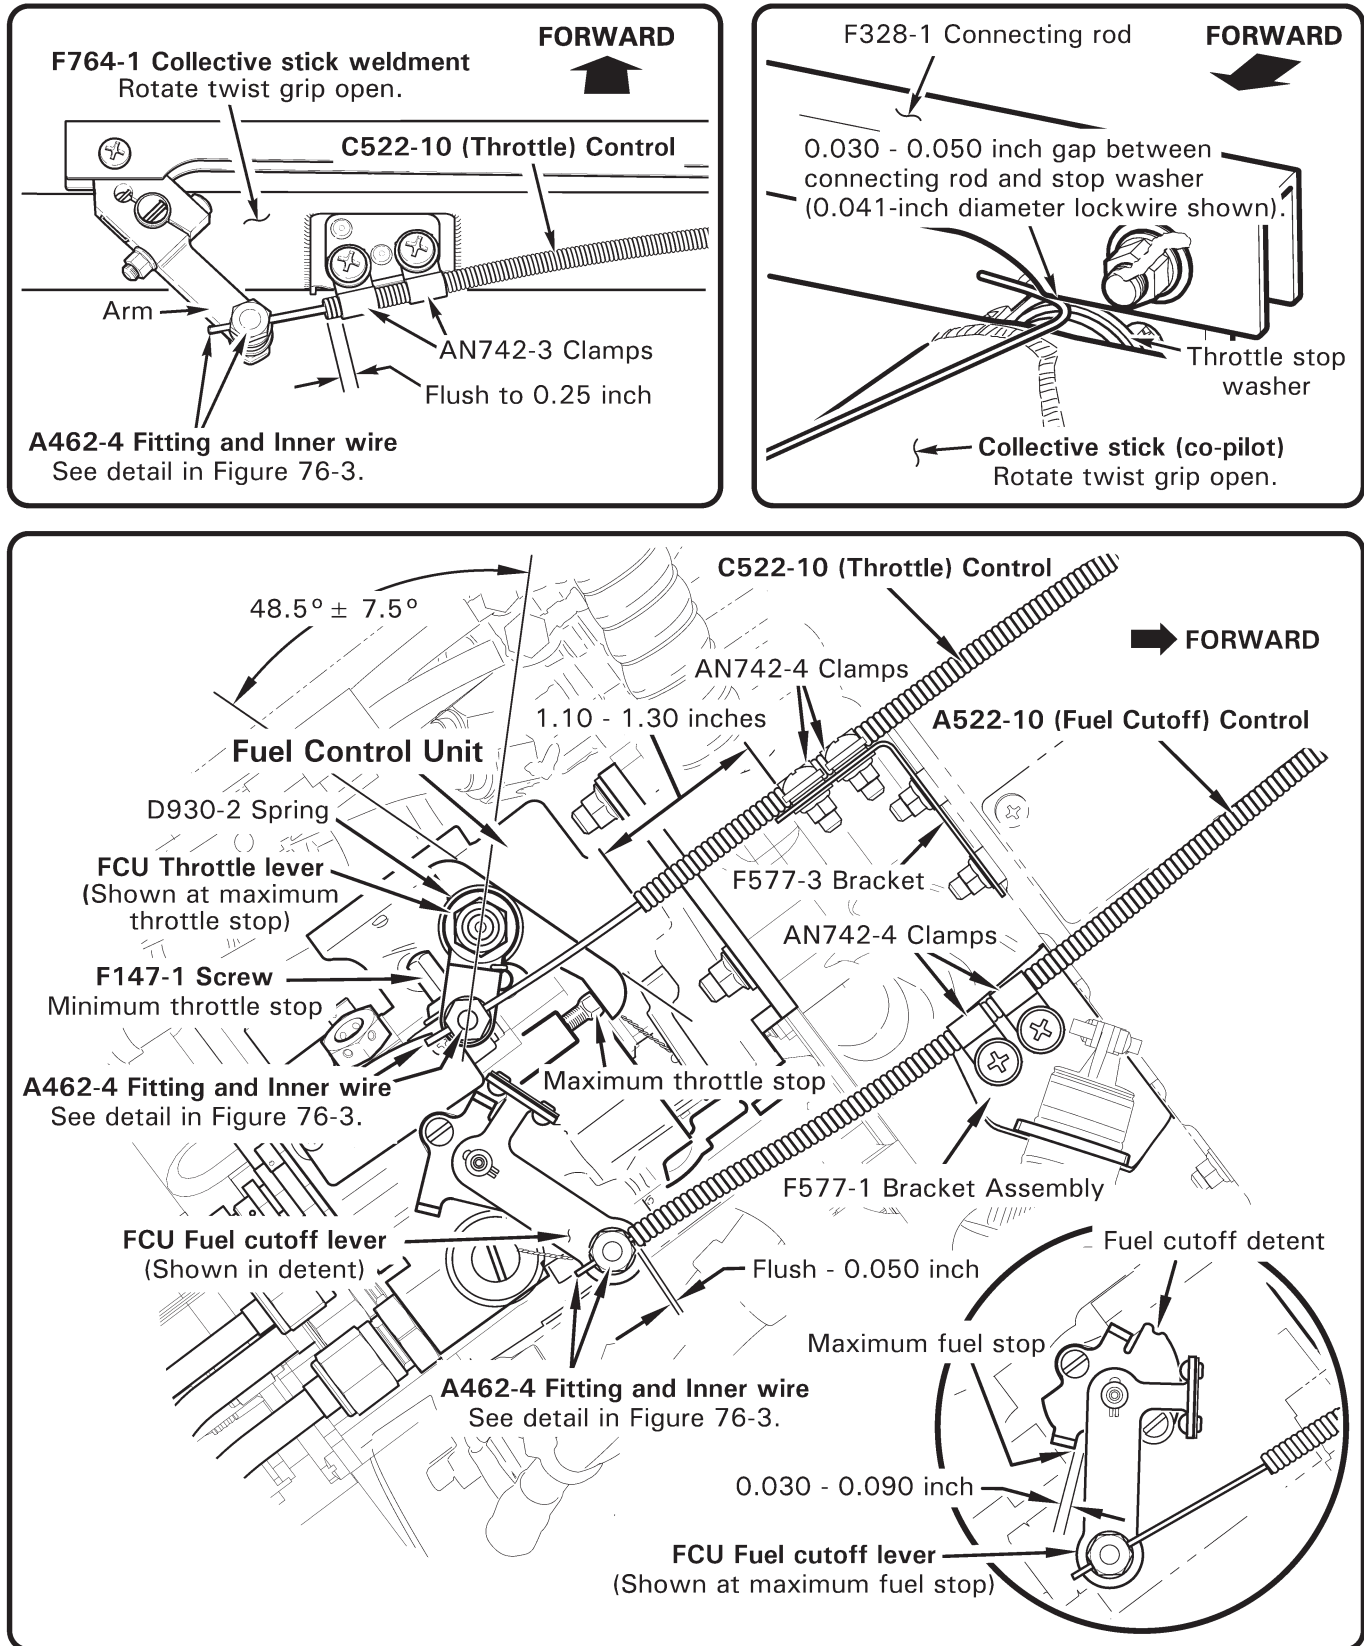

FIGURE 76-1 FUEL CONTROL UNIT
Refer to R66 Illustrated Parts Catalog (IPC) Figure 76-1.
2. Refer to Figure 76-1. Remove fasteners securing C522-10 throttle and A522-10 fuel cutoff control inner wires to FCU throttle and fuel cutoff levers.
2. Refer to Figure 76-1. Verify FCU throttle lever rigging angle is $48.5^\circ \pm 7.5^\circ$. As required, remove hardware securing serrated levers and reposition to proper angle. Install hardware, special torque nut per Section 20-33, & torque stripe per Figure 5-1.
2. Refer to Figure 76-1. Remove palnut and loosen nut securing A462-4 fitting and A522-10 (fuel cutoff) control inner wire to FCU fuel cutoff lever.